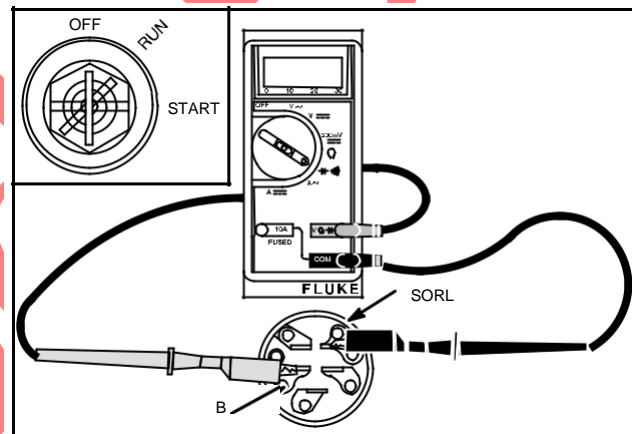

Fig. 36 – Checking Anti-Afterfire Solenoid Circuit
2. Connect one meter lead to battery terminal (B) and other lead to carburetor solenoid terminal, (L or S).
3. With key in "OFF" position there should be no continuity, Fig. 36.